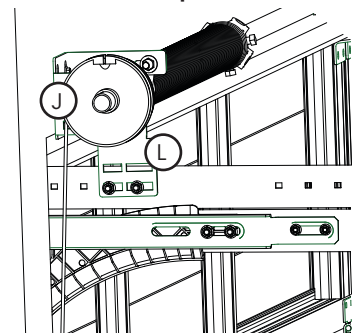

Fig: 3.6.2
- Lift the torsion bar assembly into position, resting both ends over the top of the horizontal tracks. Fig. 3.6.2.
- Ensure that the side bearing brackets (L) and cable drums (J) are situated on the outside of the horizontal tracks.
- Line up the spring anchor bracket (K) with the middle of the door, so that the cut corner is facing down.
- Secure the spring anchor bracket to the wall and the side bearing brackets to the tracks as shown in Fig 3.6.2.